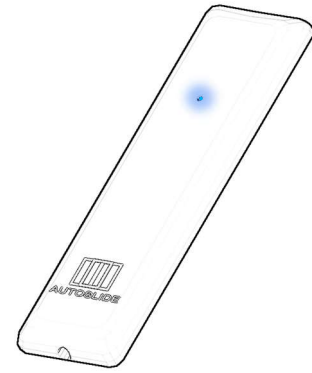

Figure 59: The wall button should flash blue when pressed.
2. Press each wall button to ensure it flashes blue when pressed (Figure 59). If the door opens when the wall button is pressed, the button is already paired and can be set aside.